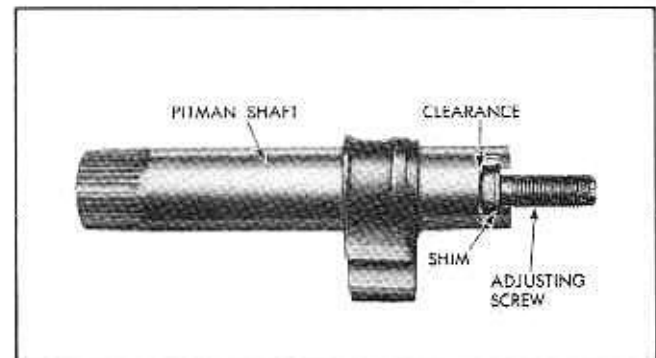

Fig. 9-10 Pitman Shaft and Adjusting Screw
4. Remove adjusting screw from slot in end of pitman shaft. Make sure shim found on adjusting screw is kept with screw (Fig. 9-10).
5. Install pitman shaft adjusting screw and selective shim in pitman shaft (Fig. 9-10). **NOTE:** Screw must be free to turn, but have no more than .002" end play. If end play of screw in slot is too tight or too loose, select new shim to give proper clearance. Shims are furnished in four thicknesses: .063", .065", .067", and .069".